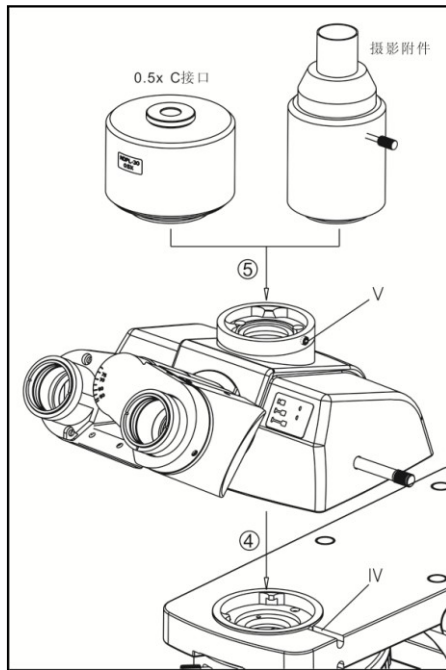

Fig 6
4-2-4 Install Camera Lens And Photo Acc /0.5X C-mount (fig 6)
Install camera lens into the microscope groove according to the path ④ shown in the figure 6, then use hex wrench tight up the bolt shown as IV and fix the camera lens.
Accord the path of ⑤ shown in figure 6 to insert the trinocular viewing unit into the microscope head. Then use the hex wrench screw the fixed bolt shown as V .